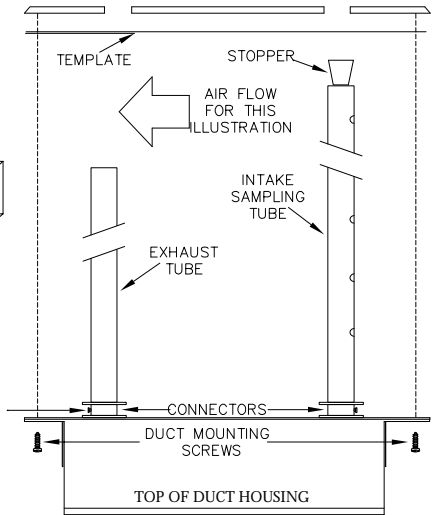

FIGURE 1B: DUCT HOUSING MOUNTING
**E. MOUNT THE DUCT HOUSING** (See Figure 1B & 2)